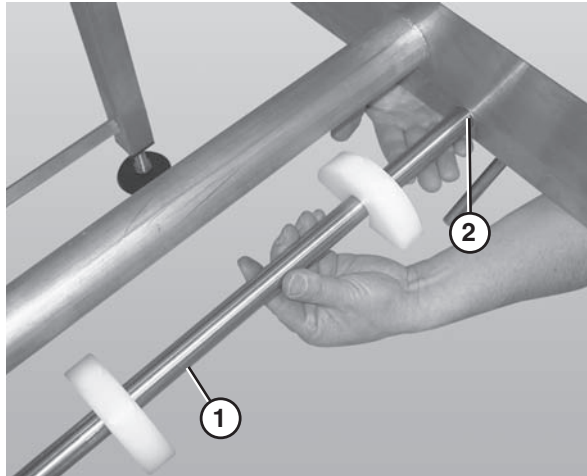

Figure 61
1. Remove the belt returns by pushing up on the return shaft (**Figure 61, item 1**) and sliding it through the large hole (**Figure 61, item 2**) in the frame.
2. Lower the opposite end of the return shaft (**Figure 61, item 1**) and slide it out of the frame.